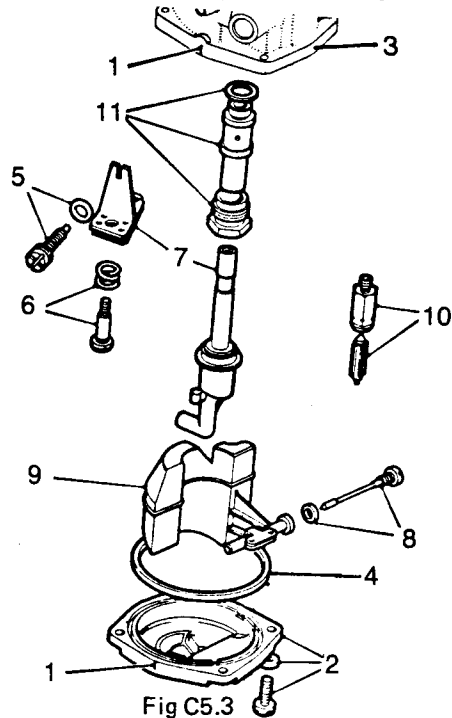

Fig C5.3
- (8) Refer to Fig C5.3. Mark the bottom cover plate and body (1) to ensure correct reassembly. Unscrew the retaining screws (2) and remove the cover (3) complete with sealing ring (4).
- (9) Remove the jet adjusting screw (5) complete with O-ring.
- (10) Remove the jet adjusting lever retaining screw and spring (6).
- (11) Withdraw the jet complete with adjusting lever and disengage the lever (7).
- (12) Remove the float pivot spindle and fibre washer (8).
- (13) Withdraw the float (9).
- (14) Remove the needle valve and unscrew the valve seat (10).
- (15) Unscrew the jet bearing locking nut and withdraw the bearing complete with fibre washer (11).